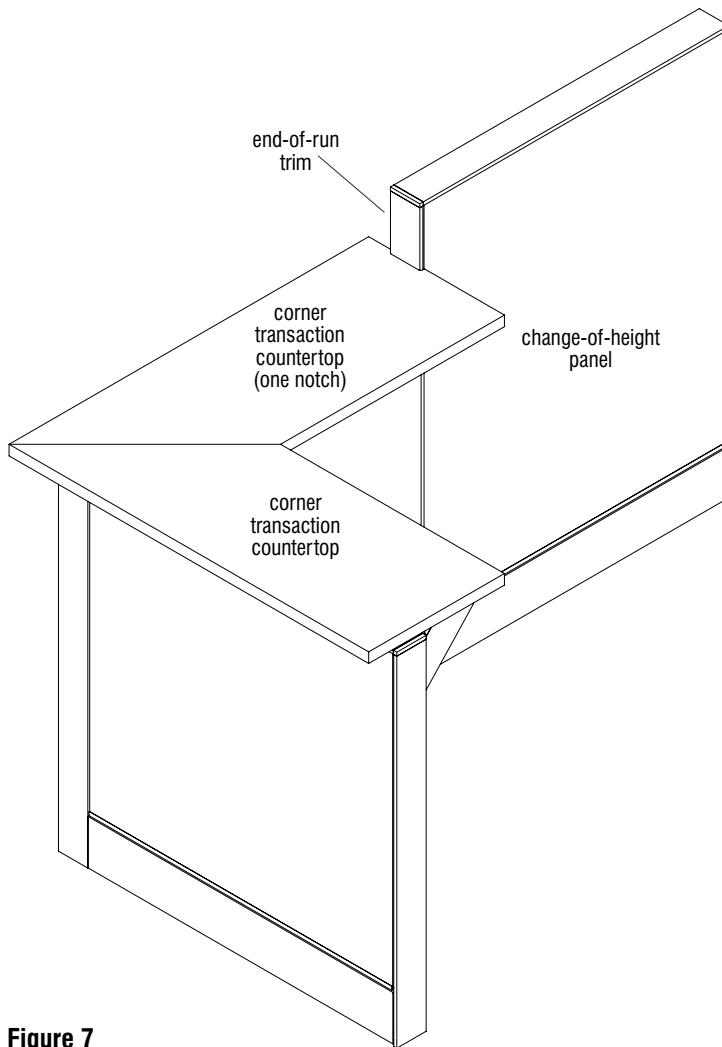

**Figure 6**
5. After the two design cantilever brackets, as well as the corner edge-style bracket have been installed to the workstation side of the panel, position the corner transaction countertop assembly onto the brackets as illustrated, with the smaller, 4" countertop overhang into the aisle side. Align mounting holes of the brackets with the pre-drilled holes in the underside of the corner transaction countertop. Using one #12 x 1" screw per bracket at the front side of the bracket (hole closest the worksurface user), secure the bracket to the transaction countertop as illustrated (Figure 6 & Detail F).
6. Position a design lock clip as illustrated (Detail F) and insert the thin prong end of the clip into the top panel notch, just above the top tooth of the left-hand design cantilever bracket. Fully inserted properly, the mounting hole of the lock clip will align over the unused mounting hole in the cantilever bracket. Insert and tighten the second #12 x 1" screw to secure the clip over the cantilever bracket, and to the corner transaction countertop (Figure 6 & Details F & G).
the corner transaction countertop (Figure 6 & Details H & I). Finally, check and assure that all bracket mounting screws are tight. The corner transaction countertop should be snug and no movement should be felt (Figure 6 & Details H & I).